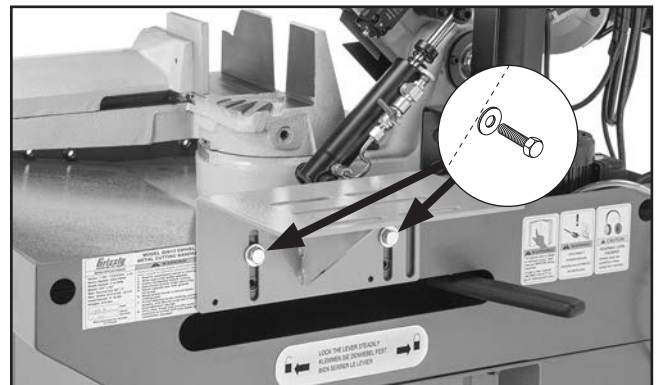

Figure 3. Outfeed mounting bracket attached.
1. Attach outfeed mounting bracket to bandsaw base with (2) M10-1.5 x 25 hex bolts and (2) 10mm flat washers, see **Figure 3**.